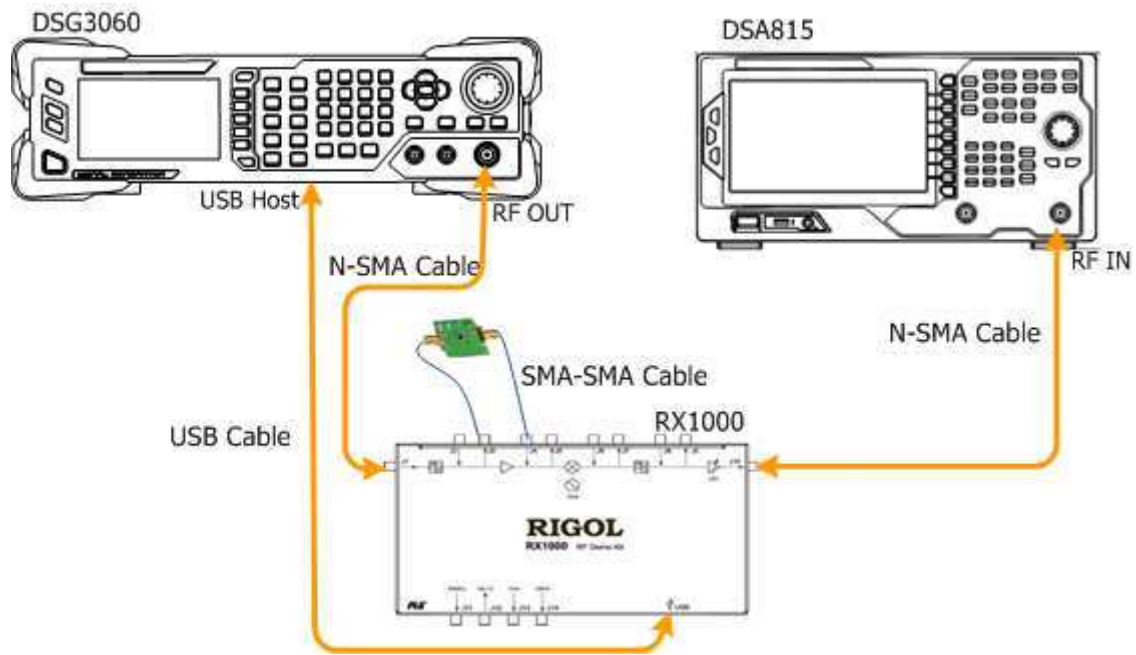

Figure 8 The Influence of the Performance of Amplifier on the System
1. Connect the DSG3000 series RF signal generator and RX1000 using USB cable; connect the J1 terminal of the RX1000 and the RF output interface of the DSG3000 using an N-SMA cable; connect the J10 terminal of the RX1000 and the RF input interface of the spectrum analyzer using another N-SMA cable; connect the amplifier to J3 and J4 using two SMA-SMA cables (to replace the internal amplifier of RX1000) as shown in Figure 8.